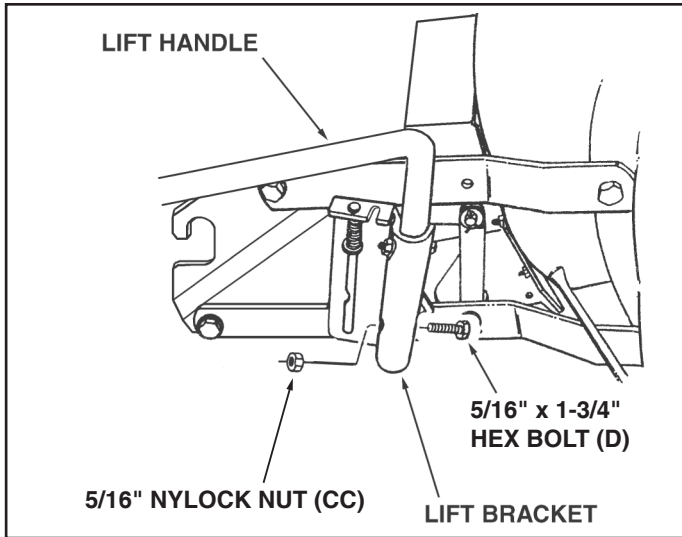

FIGURE 47 RIGHT SIDE VIEW
STEP 48: (SEE FIGURE 47)
- Place the lift handle into the lift bracket on the right side of the snow thrower. Fasten the handle to the bracket using two 5/16" x 1-3/4" hex bolts (D) and 5/16" Nylock nuts (CC).